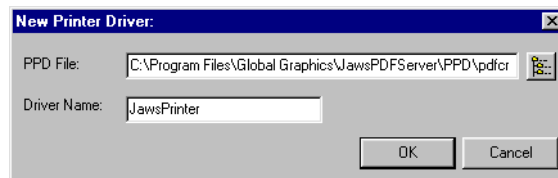

Figure 5.4 Adding the Jaws printer driver
2. Click **Create PS printer driver**. The the New Printer Driver dialog box opens, as shown in Figure 5.4.